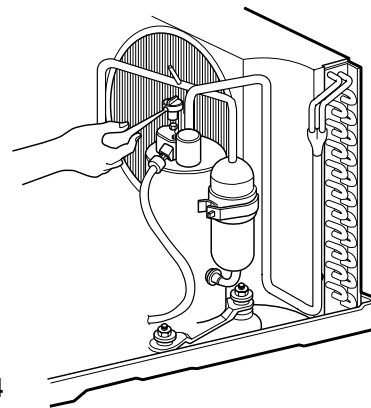

Figure 24
3. Remove the terminal cover. (See Figure 24)